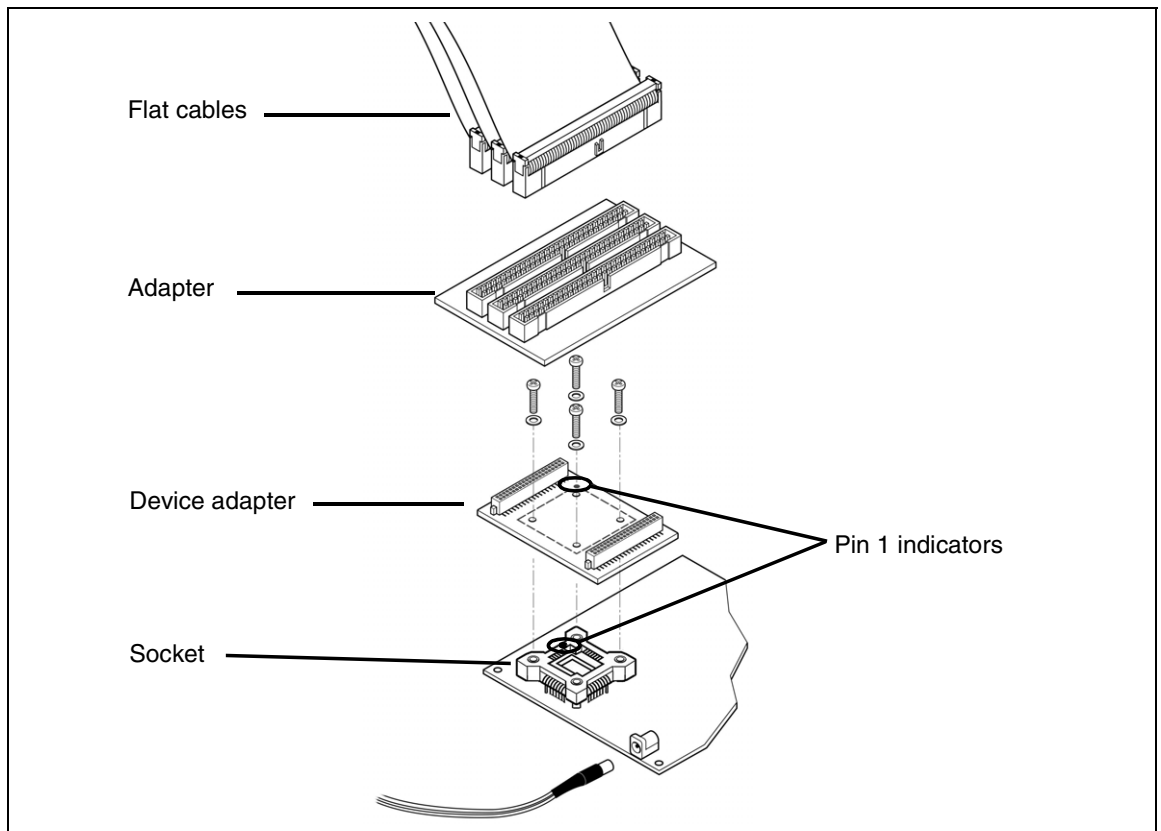

Figure 11: Connection for TQFP44
- 3 Connect the other end of each of the three 50-pin flat cables to the TQFP80/64/44 adapter (ref.: DB530), as shown in Figure 11.
- 5 Fix the device adapter (ref.: DB544) to the Yamaichi socket soldered on your application board using the provided screws (see Figure 11). Ensure that the device adapter's pin 1 indicator is aligned with the socket's pin 1 indicator.
- 6 Connect the adapter to the device adapter as shown in Figure 11.